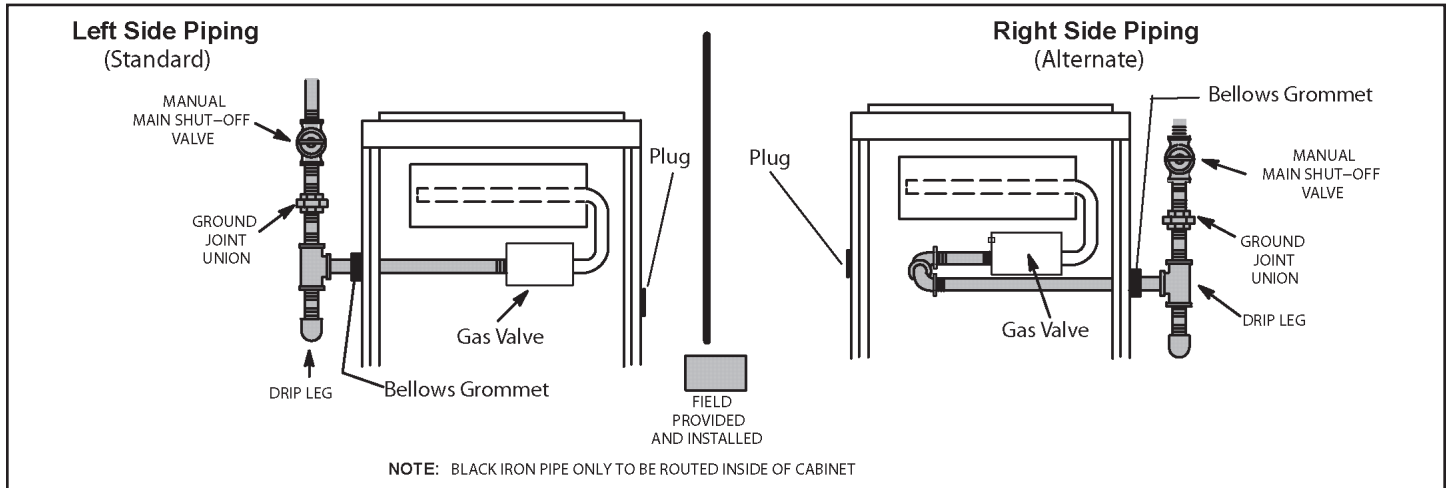
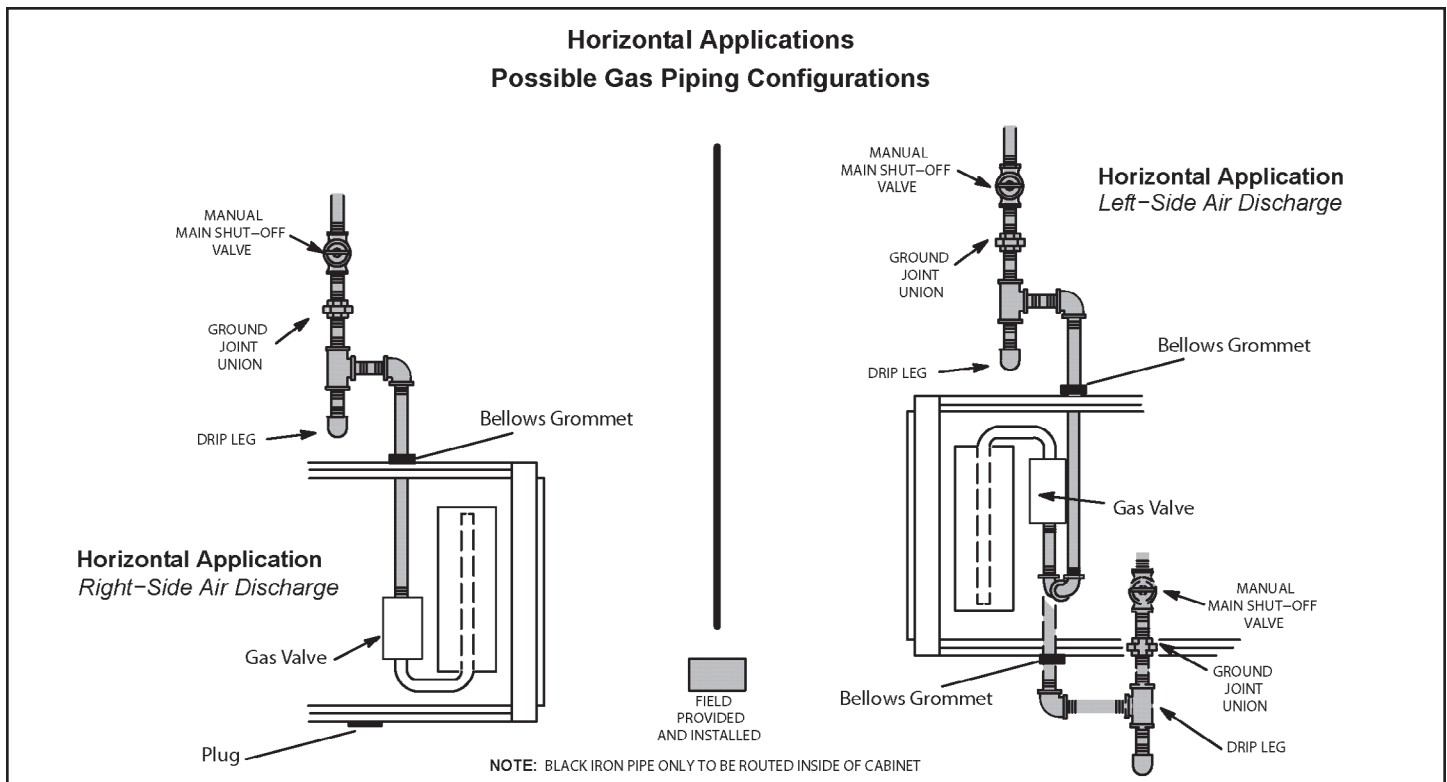

Figure 61. Gas Piping Upflow Applications
Figure 62. Gas Piping Horizontal Applications
1. Gas piping may be routed into the unit through either the left or right hand side. Supply piping enters into the gas valve from the side of the valve as shown in Figure 61 and Figure 62. Move Bellows grommet to side which gas line enters. Ensure opposite gas line hole is plugged with supplied plug.
3. Gas piping must not run in or through air ducts, clothes chutes, chimneys or gas vents, dumb waiters or elevator shafts. Center gas line through piping hole. Gas line should not touch side of unit. See Figure 61 and Figure 62.